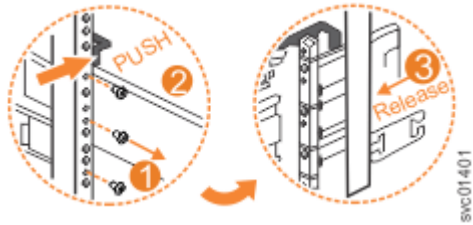

Figure 118. Remove the rail assembly from the rear frame bracket
3. Remove the two screws that attach the inner rail section to the rear bracket, as shown in Figure 118 on page 167.
4. Pull the rail forward away from the rear bracket, as shown in Figure 118 on page 167.